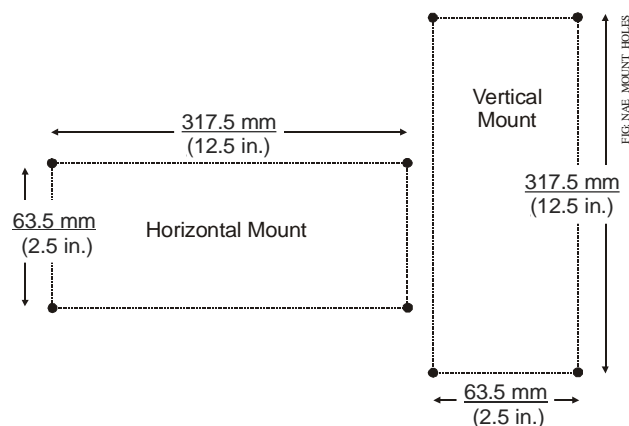
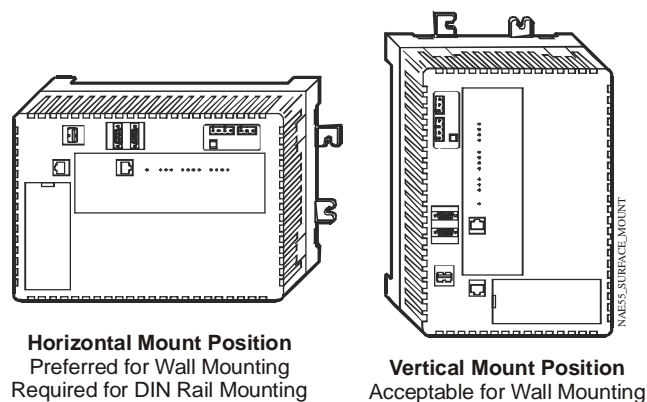

Figure 3: Mounting Screw Hole Dimensions
Figure 4: Required Orientations for NAE55 Wall Mount Applications
- Mount the NAE55 in the proper orientation (Figure 4).
1. Mark the location of the four wall mount feet on the wall using the dimensions in Figure 3 and an orientation shown in Figure 4, or hold the NAE55 up to the wall and mark the hole locations.